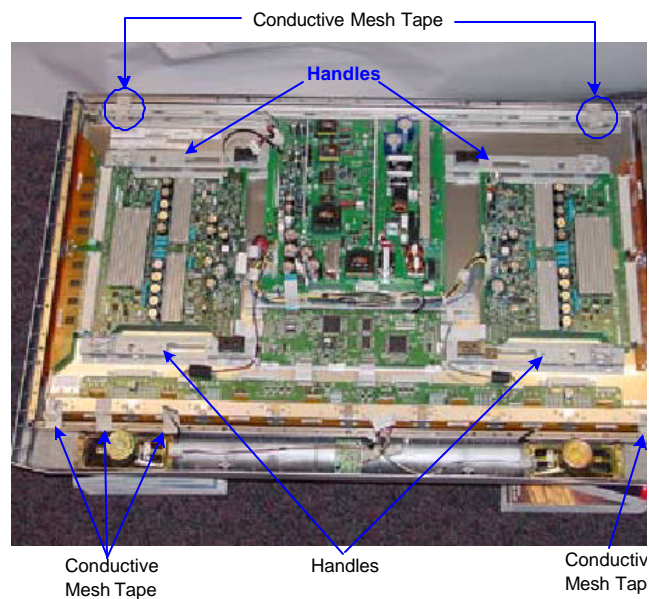
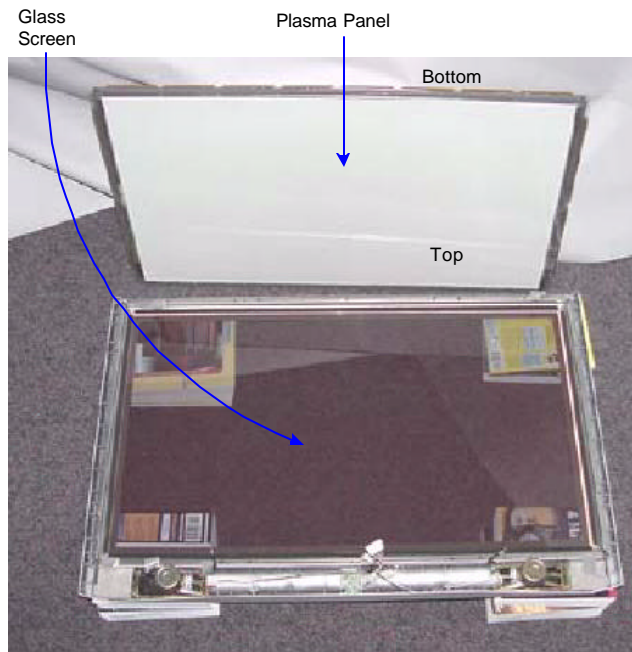

FIGURE 9-6 - RAILS AND STAND REMOVED
FIGURE 9-7 - SCREEN UPSIDE DOWN ON FLOOR
- h) With a partner, lift the plasma screen off by the handles (Figure 9-6). PLACE THE PANEL UPSIDE DOWN ON THE FLOOR – SEE FIGURE 9-7. The power supply board must be removed from the panel if the panel is to be replaced. Only clean the inside of the screen with Sony cloth p/n X-4034-197-1.
- Attach the conductive mesh tape between the bezel and plasma panel (refer to Figure 9-6).